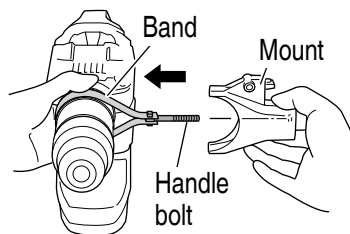

Fig. 16
- (3) As you hold the band to make sure the handle bolt won't come loose, insert the handle bolt into the mount. (Fig. 16)